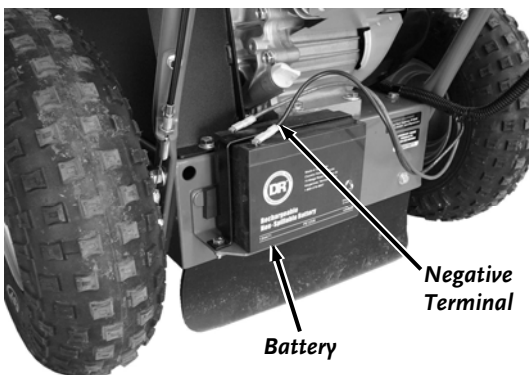

Figure 8
- Connect the Black Negative Terminal onto the negative Battery Lug (**Figure 8**).